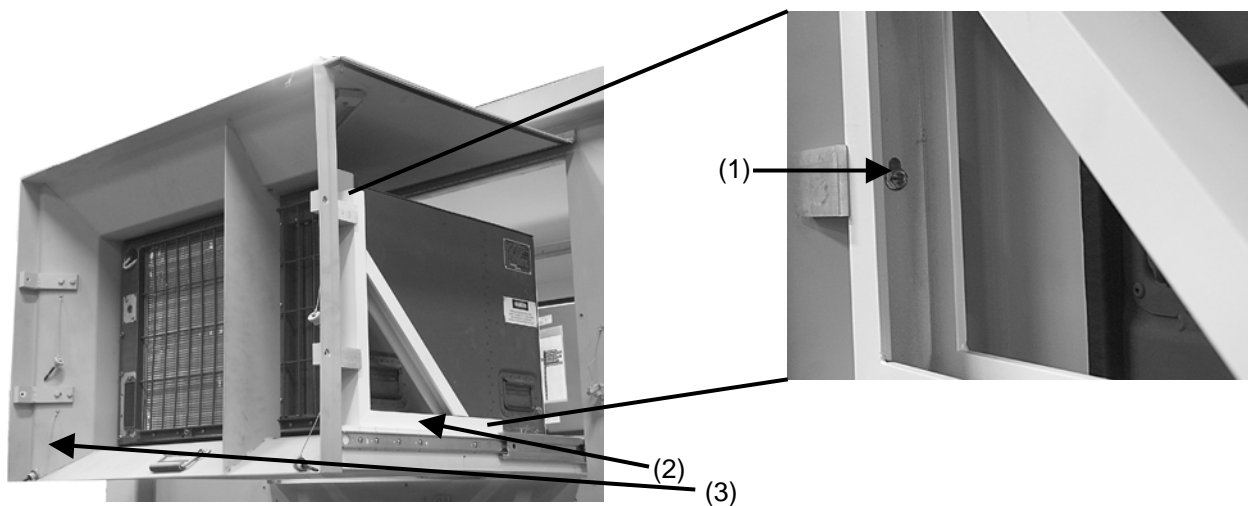

Figure 4-13. ECU shroud and bracket.
8. Remove two 1/4" bolts (1) and lock washers located on vertical portion of both sides of shroud bracket (2) and remove shroud (3) (Fig. 4-13). Discard lock washers.